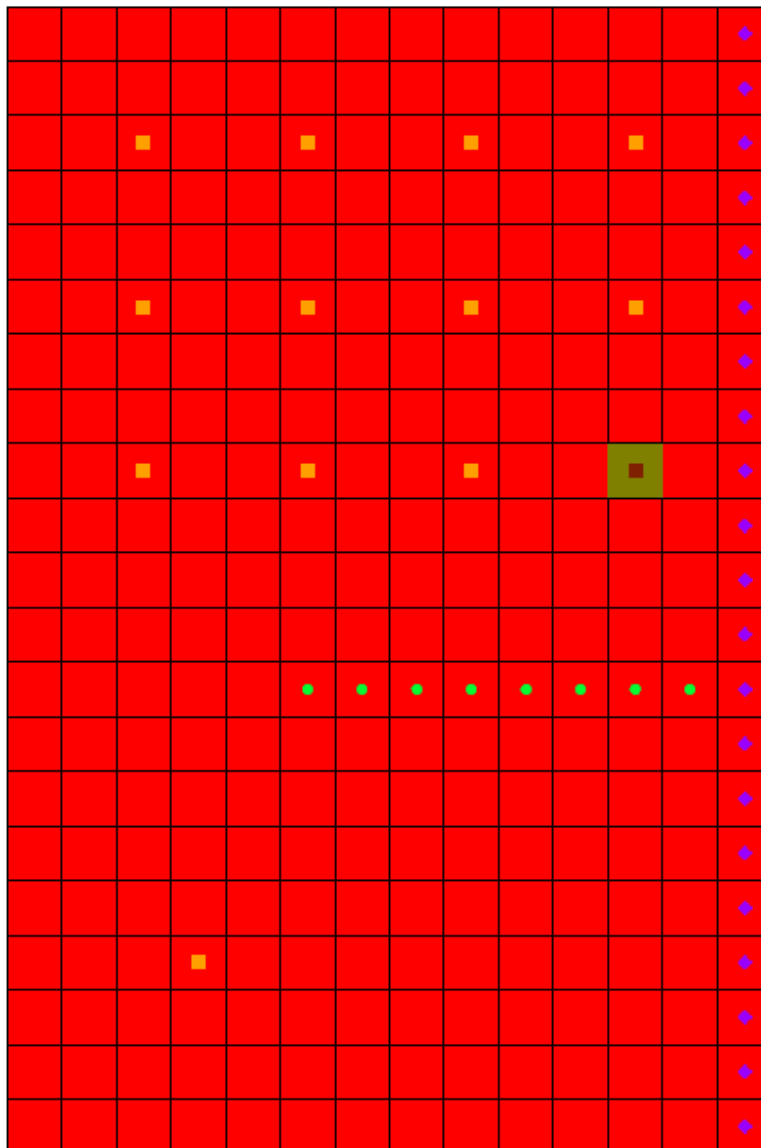

Figure 14 MNW2 boundary condition cell (IJK = 9,12,1, ID = 124)
5. Select the bottom-right well cell (Cell ID 124, highlighted in Figure 14), right-click on it, and select **Sources/Sinks...** to bring up the *MODFLOW Sources/Sinks* dialog.